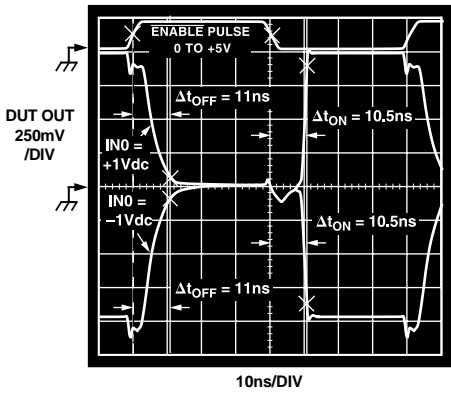

Figure 5. Enable and Disable Switching Characteristics
- 2ENABLE pin is driven with 0 V to +5 V pulse (with 3 ns edges). State of SELECT input determines which channel is activated (i.e., if SELECT = Logic 0, IN0 is selected). Set IN0 = +1 V dc, IN1 = -1 V dc, and measure transition time from 50% of ENABLE pulse (+2.5 V) to 90% of the total output voltage change. In Figure 5, ΔtOFF is the disable time, ΔtON is the enable time.